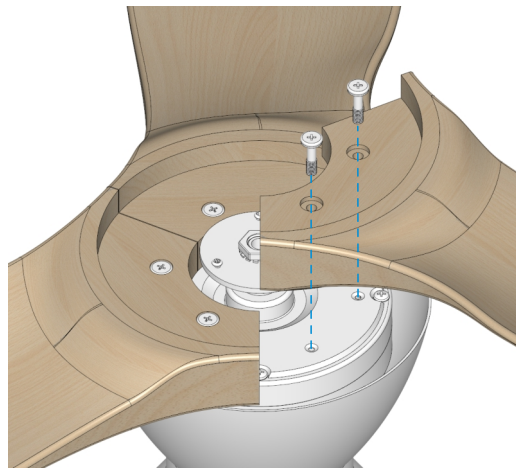

Fig. 1.1
1.1 Locate 6 blade attachment screws and washers included in the hardware pack. Use these screws and washers to firmly attach each blade to the motor hub, as demonstrated in Fig. 1.1.